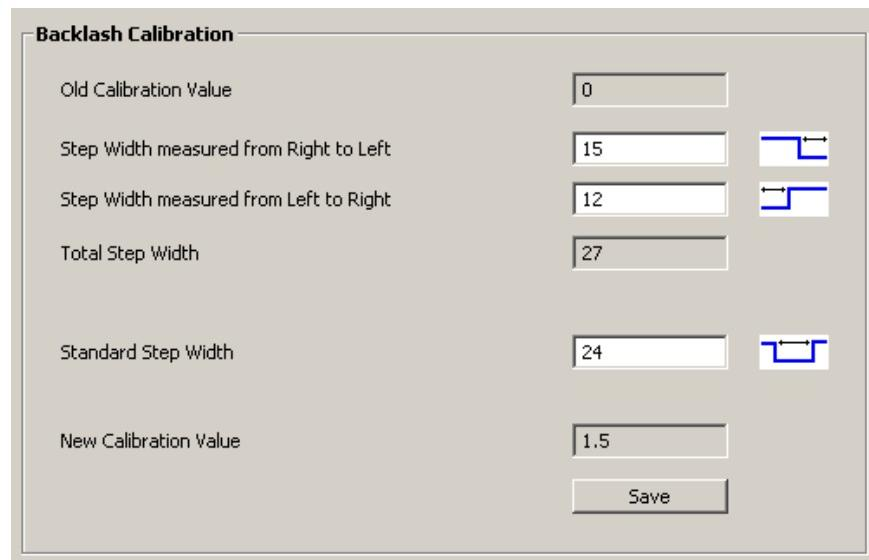

Figure 6.7 Backlash Calibration window
6. Enter the values as required (Figure 6.7) and click on the **Save** button to validate the calibration.